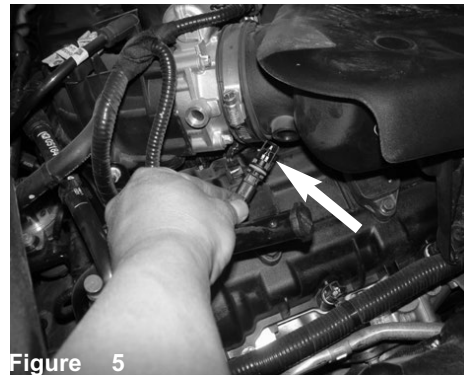

Figure 5
Figure 23 (A) Use a M6 nut and fender washer to secure the intake bracket to the vibramount. Make your final adjustment and secure the clamp on the hose in figure 5 (B) Use the 10"-15mm vacuum hose and connect the vacuum nipple on the intake tube to the crank case vent tube